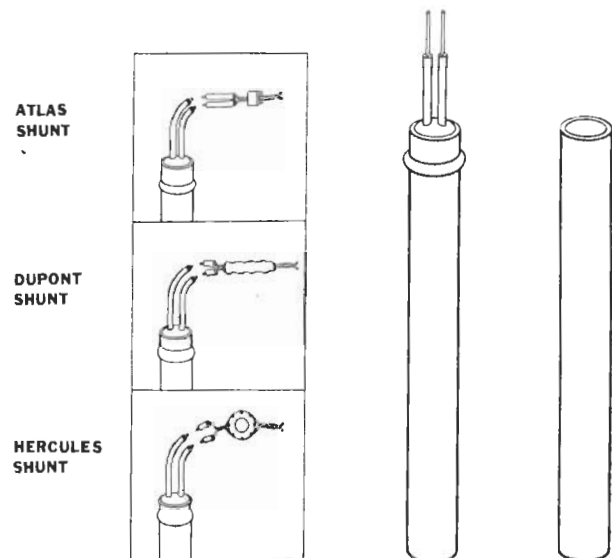

Figure 4
The Detonator, Electric, No. 8, as shown in Figure 4, (Blasting Cap) is the only detonator authorized for use with this set. These are primarily packed in a large wooden box which contains smaller metal boxes each containing 70 detonators. The detonators are packed in
The accessories set described in Chapter 2 is issued for use with the detonation set and should be requested as needed. Detonator, Electric, No. 8, (see Figure 4) is the only detonator (blasting cap) authorized for use with this set and should be requested in multiples of seventy (70) as needed. A weaker detonator may fail to give proper dispersion and a stronger detonator may scatter the contents in-